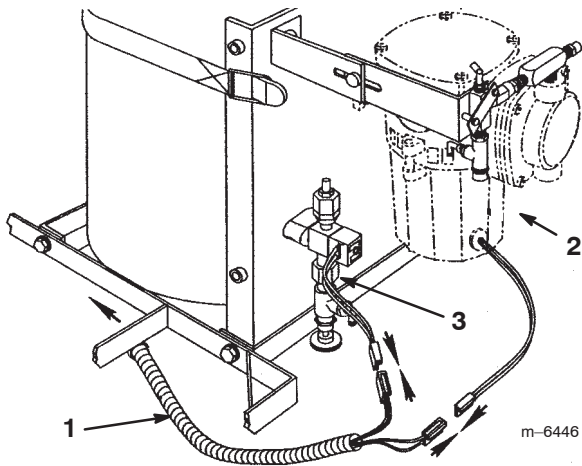

Figure 7
1. Locate the wiring harness and make the connections to the compressor and the solenoid located at the foam tank/compressor assembly (Fig. 7).
Note: Both of the plug connections are identical (Fig. 7).